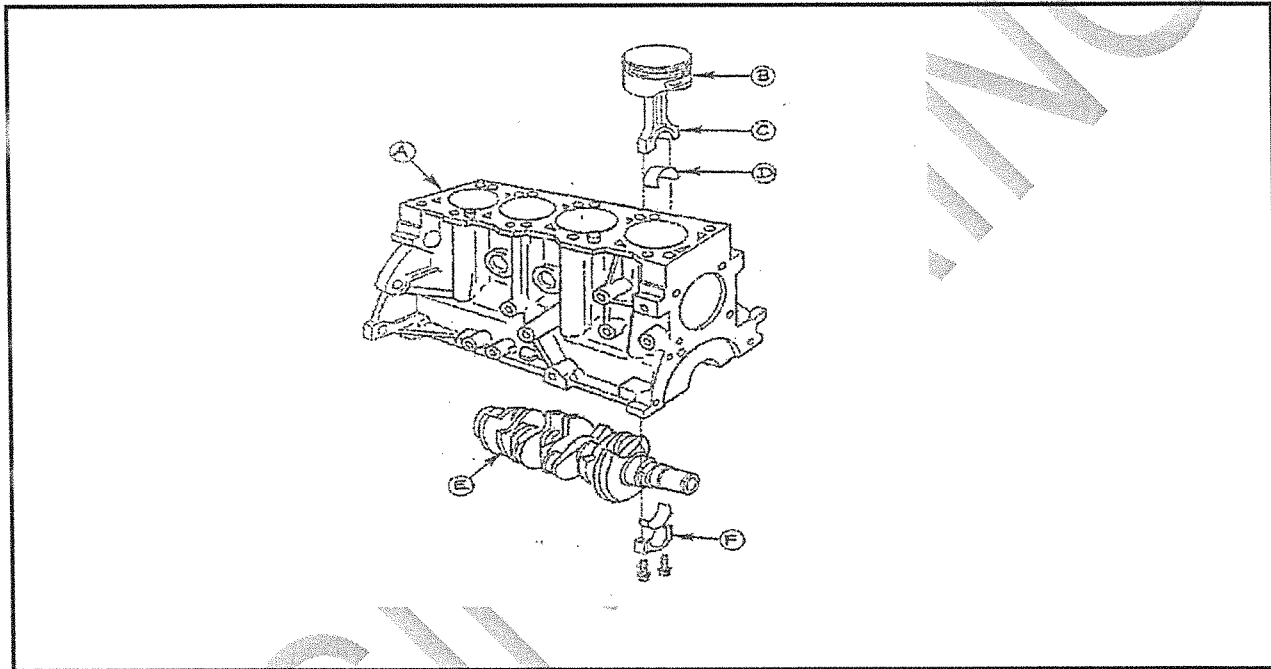

FIGURE 2
- 2.1 FIGURE 2 below shows a sketch of the parts of an internal combustion engine.